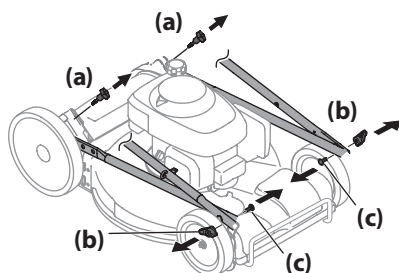

Figure 2-1
2. Remove the T-bolts (a) from the handle brackets as shown in Figure 2-1.
3. Remove wing knobs (b) and carriage bolts (c) from handle as shown in Figure 2-1. Do not loosen or remove adjacent hex head screws.